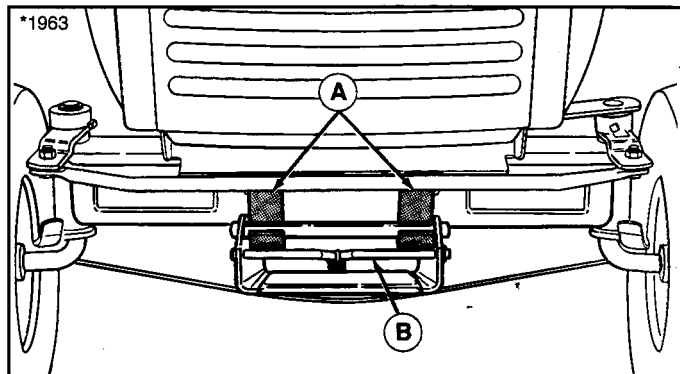

Figure 5. Mower Hitch
3. See Figure 5. Turn wheels straight. Pull back on the spring-loaded lever (B) while lifting up on the mower hitch. Install mower hitch onto tractor hitch brackets (A). When properly installed, the spring-loaded lever should seat fully underneath the brackets.